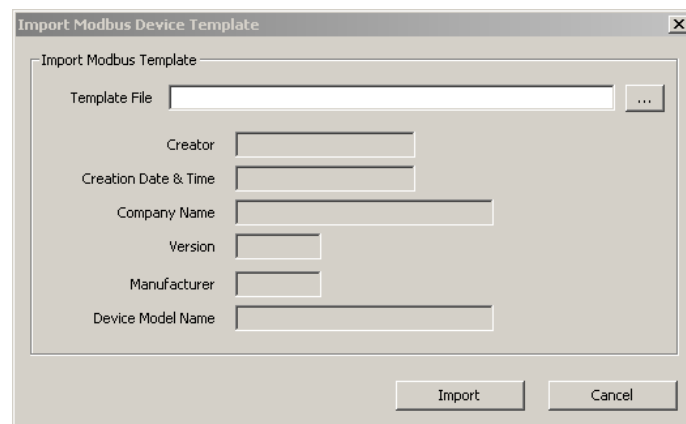

Figure 277 Import Modbus Device Template dialog.
3. Click on the **Create From Template** button. This opens the **Import Modbus Device Template** dialog shown in Figure 277.
3. Click on the **Create with DP** button. This opens the **Import Modbus Device Template** dialog shown in Figure 277.